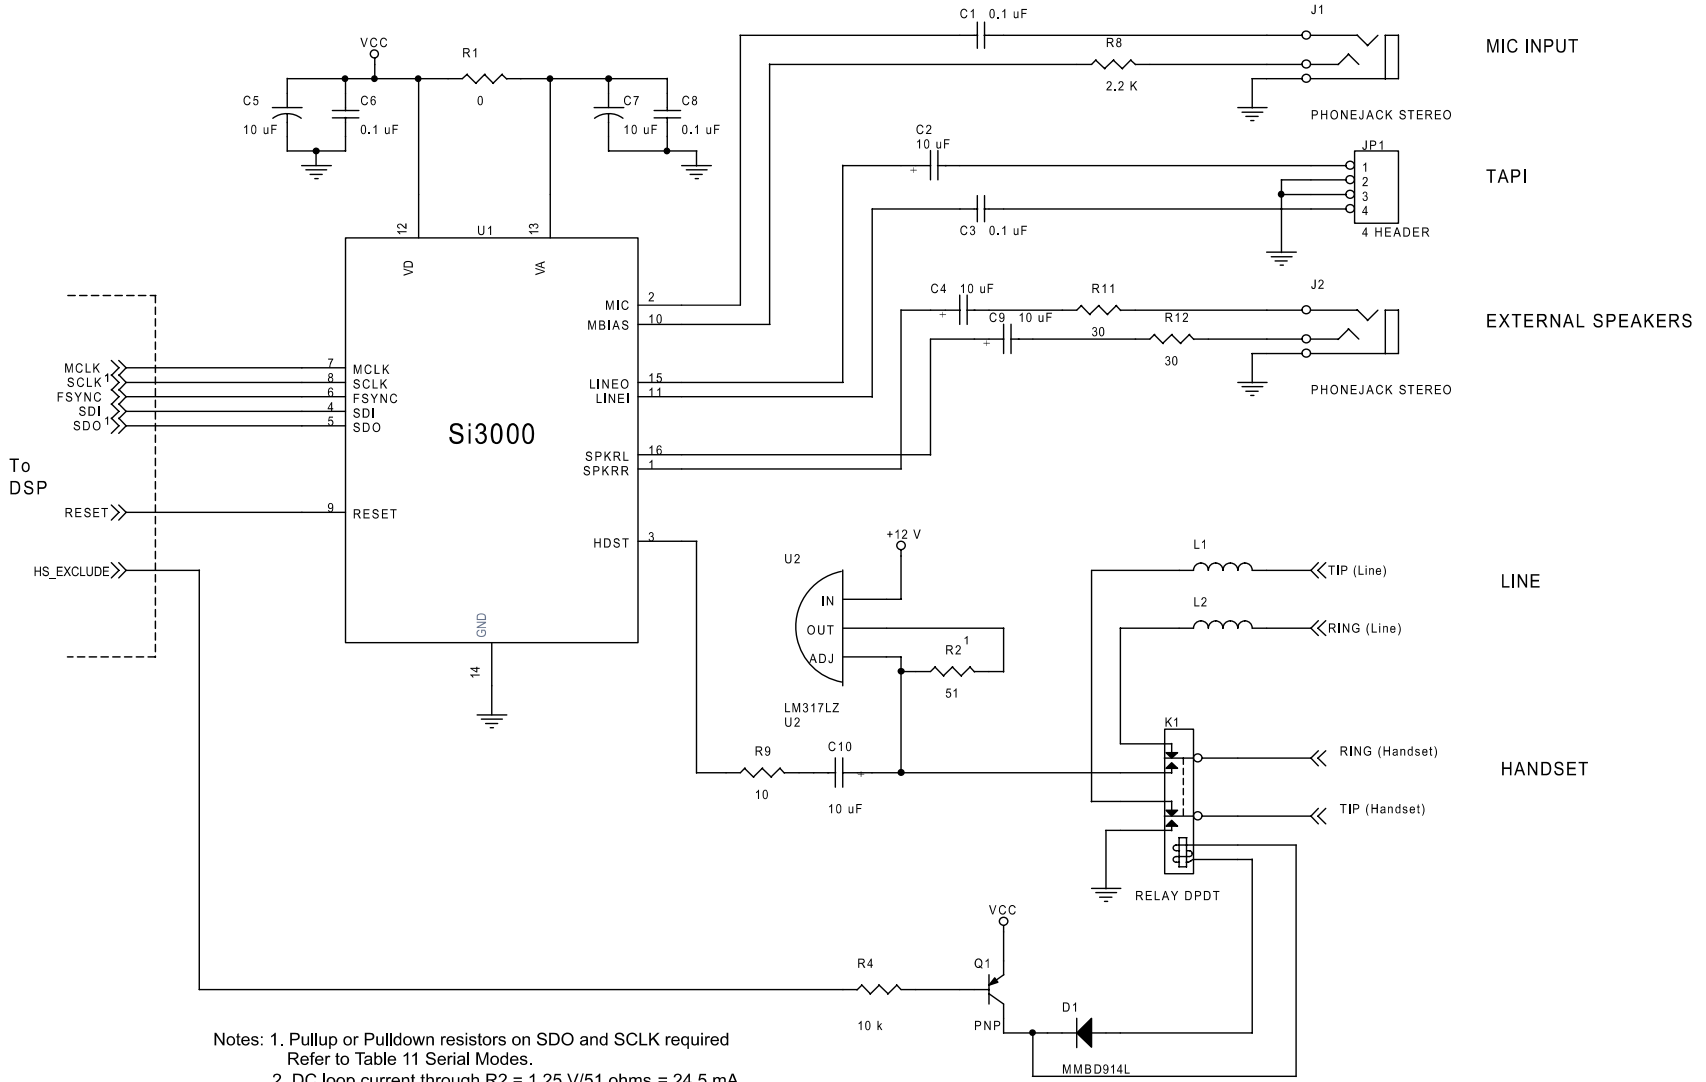

Figure 13. Si3000 Typical Application Circuit
5. These characteristics are determined by external components. See Figure 13.
The Si3000 can be connected directly to the Si3035, Si3034, Si3044 in modem applications requiring a voice channel, or the device can be used as a stand-alone codec in other voice band applications. The Si3000 offers high integration, and it needs only a few low cost, discrete components as shown in Figure 13.
The typical connection diagram (Figure 13) shows the recommended external analog circuitry for the Si3000. The device supports three mono analog inputs—line level, microphone level, and a handset input. Each of these inputs is provided to a mixer circuit prior to A/D conversion. Each analog input may also be muted by writing the appropriate bits in the control registers. Unused analog inputs should be tied to GND through a 0.1 μ F capacitor. This prevents any DC current flow.
LINEO is a line level analog output signal centered around a common mode voltage. The minimum recommended load impedance is 600 Ω . This output is a fully filtered output with a 1 V_{rms} full scale range. The only external component required is the 10 μ F DC blocking capacitor shown in Figure 13 on page 12. This output may be muted through the LOM bit in register 6 or attenuated by setting the analog attenuation bits in register 9.
The SPKRL and SPKRR analog outputs are capable of driving a small loudspeaker whose impedance is typically 32 Ω (see Figure 13 on page 12). The speaker outputs may be muted through the SLM and SRM bits in the DAC Gain Control register 7 or attenuated by setting the analog attenuation bits in register 9.
The Si3000 has two serial interface modes that support most standard modem DSPs. These modes are selected by the addition of a 50 k Ω pull-down/up resistor on the SDO and SCLK pins as shown in Figure 13 on page 12. To determine the mode, the Si3000 reads SDO and SCLK on the first rising edge of MCLK after $\overline{\text{RESET}}$ goes low. The key difference between these two serial modes is the operation of the $\overline{\text{FSYNC}}$ signal. Table 11 summarizes the serial mode definitions.